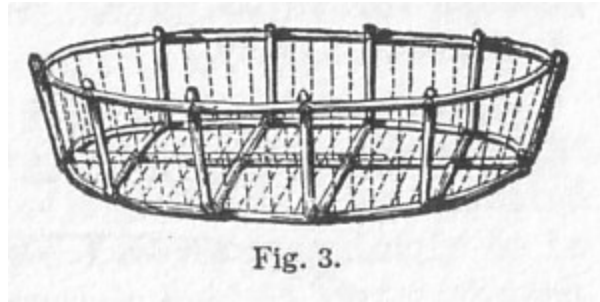

Fig. 3.
A simple break, used in Italy, in some parts of England and probably elsewhere, is shown in fig. 3. A rail is lashed to the body of the cart, both before and behind the wheel, and is made to press against the wheel. Either both lashings can be tightened at the same time, as at A, A; or only one of them, as at B. When the lashings are loose, the rail rests partly on the nave of the wheel and does not sensibly interfere with its movement.
4. Bent two more main willows for gunwales for the boat, and two more for bottom rails. Each separate stick, as will be perceived by fig. 3, is lashed in five different places, and the keep in eight places.
5. Fasten a large number of little slender willow-twigs between each of the main cross-knees, as shown by the thin lines in fig. 3. It is then fit for covering. Lift it up like a basket, and turn it topsy-turvy.